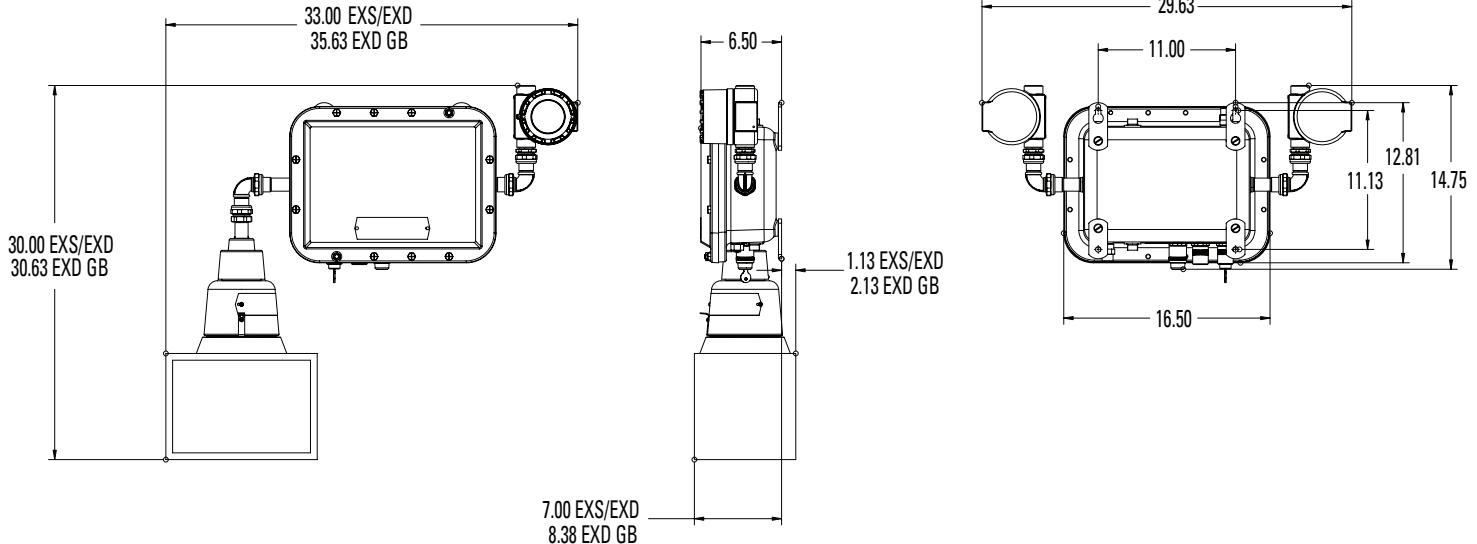

Figure 1. ELPSM22 and ELPSM22 EXS/EXD Dimensions
- Select mounting location that will provide suitable strength and rigidity for supporting power supply and attached lighting equipment. Figure 1 shows the overall dimensions and mounting dimensions for the four (4) mounting feet.